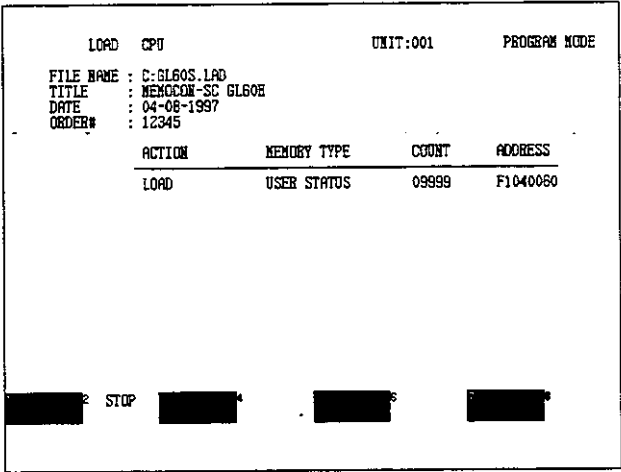

Figure 6.93
(4) To stop the load process when running, select Stop. The labels displayed will change to those shown in *Figure 6.93*. Select Continue and the load process will continue. Select Abort and the display will return to the screen shown in *Figure 6.81*.